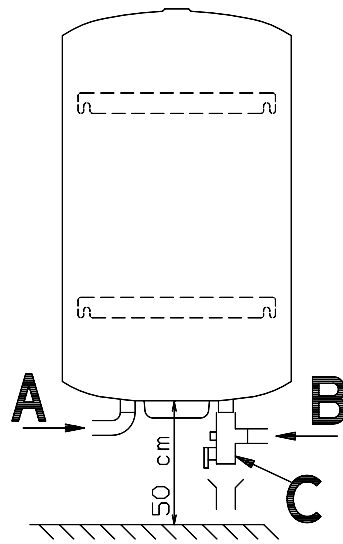

Fig. 2
- Fig.2, 3 A- eau chaude – bague rouge
- Fig.2, 3 A- hot water – red ring
- Fig.2, 3 A- água quente – anel vermelho
- Afb.2, 3 A- warm water – rode ring